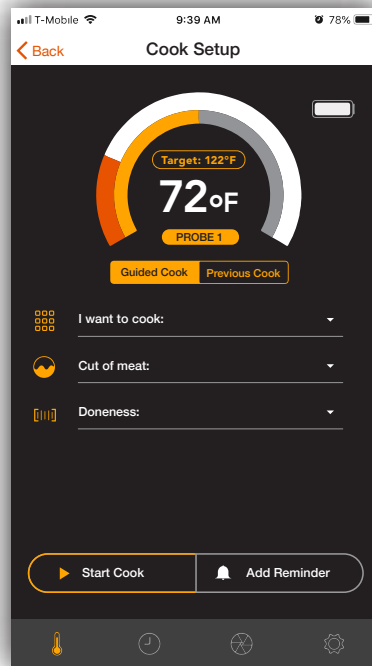

Figure 7. Display of Cook Setup
2. Tap the field of information for the probe you are using on the "Available Probes" screen, the "Cook Setup" screen will appear as shown in Figure 7.